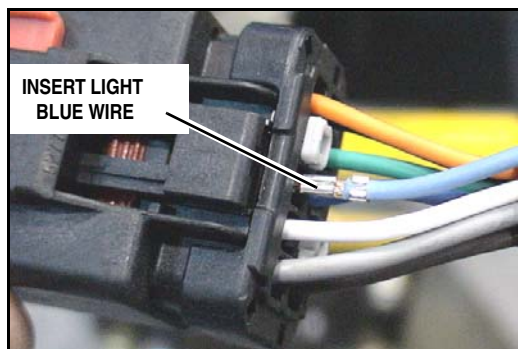

Figure 2
b) The light blue wire on the PLOW light harness should be moved from pin location 3 to 4 on the FEMALE connector. (See Fig. 2)
3. Remove the white cavity plug from pin cavity 3 and then insert light blue wire with female terminal into pin 3 of the female connector (See Figure 2.).